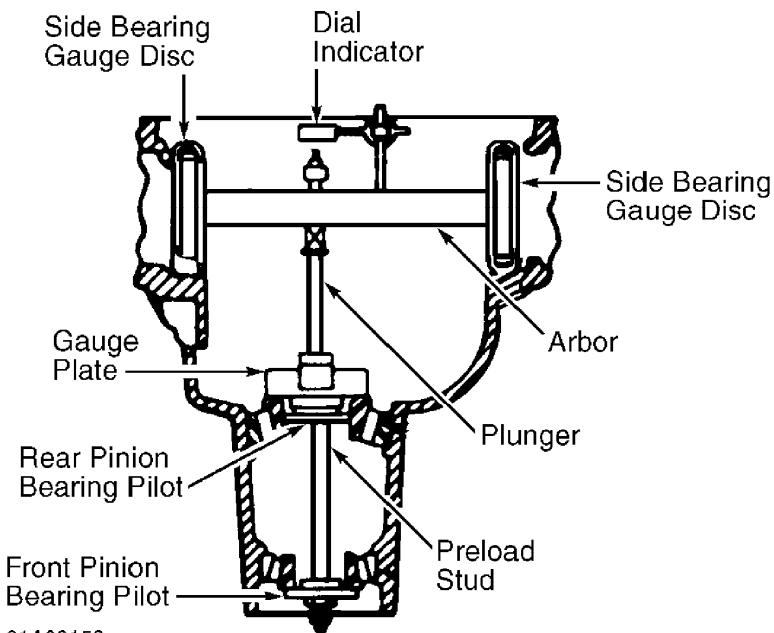

Fig. 4: Installing Pi ni on Depth Gauge Set
2) If removed, lubricate and install pi ni on bearings into races. Install lubricated pi ni on bearings. Position gauge plate and rear pi ni on bearing pilot on pre load stud. Install assembly through rear pi ni on bearing, front pi ni on bearing and front pi ni on bearing pilot. See Fig. 4.